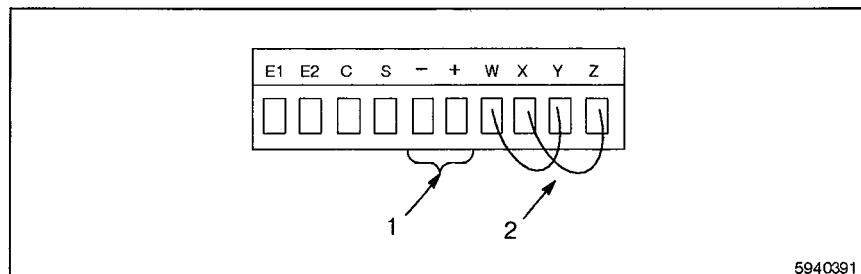

Fig. 5-10 Keypad Terminal Block
5. The comm port tests communications. Figure 5-10 illustrates how jumpers are placed in the keypad terminal block for testing.
When the comm port diagnostic is run, with keypad terminals W, X, Y, and Z jumpered as illustrated in Figure 5-10, a string of plus signs scrolls across the display. When either jumper is removed, the scrolling stops.